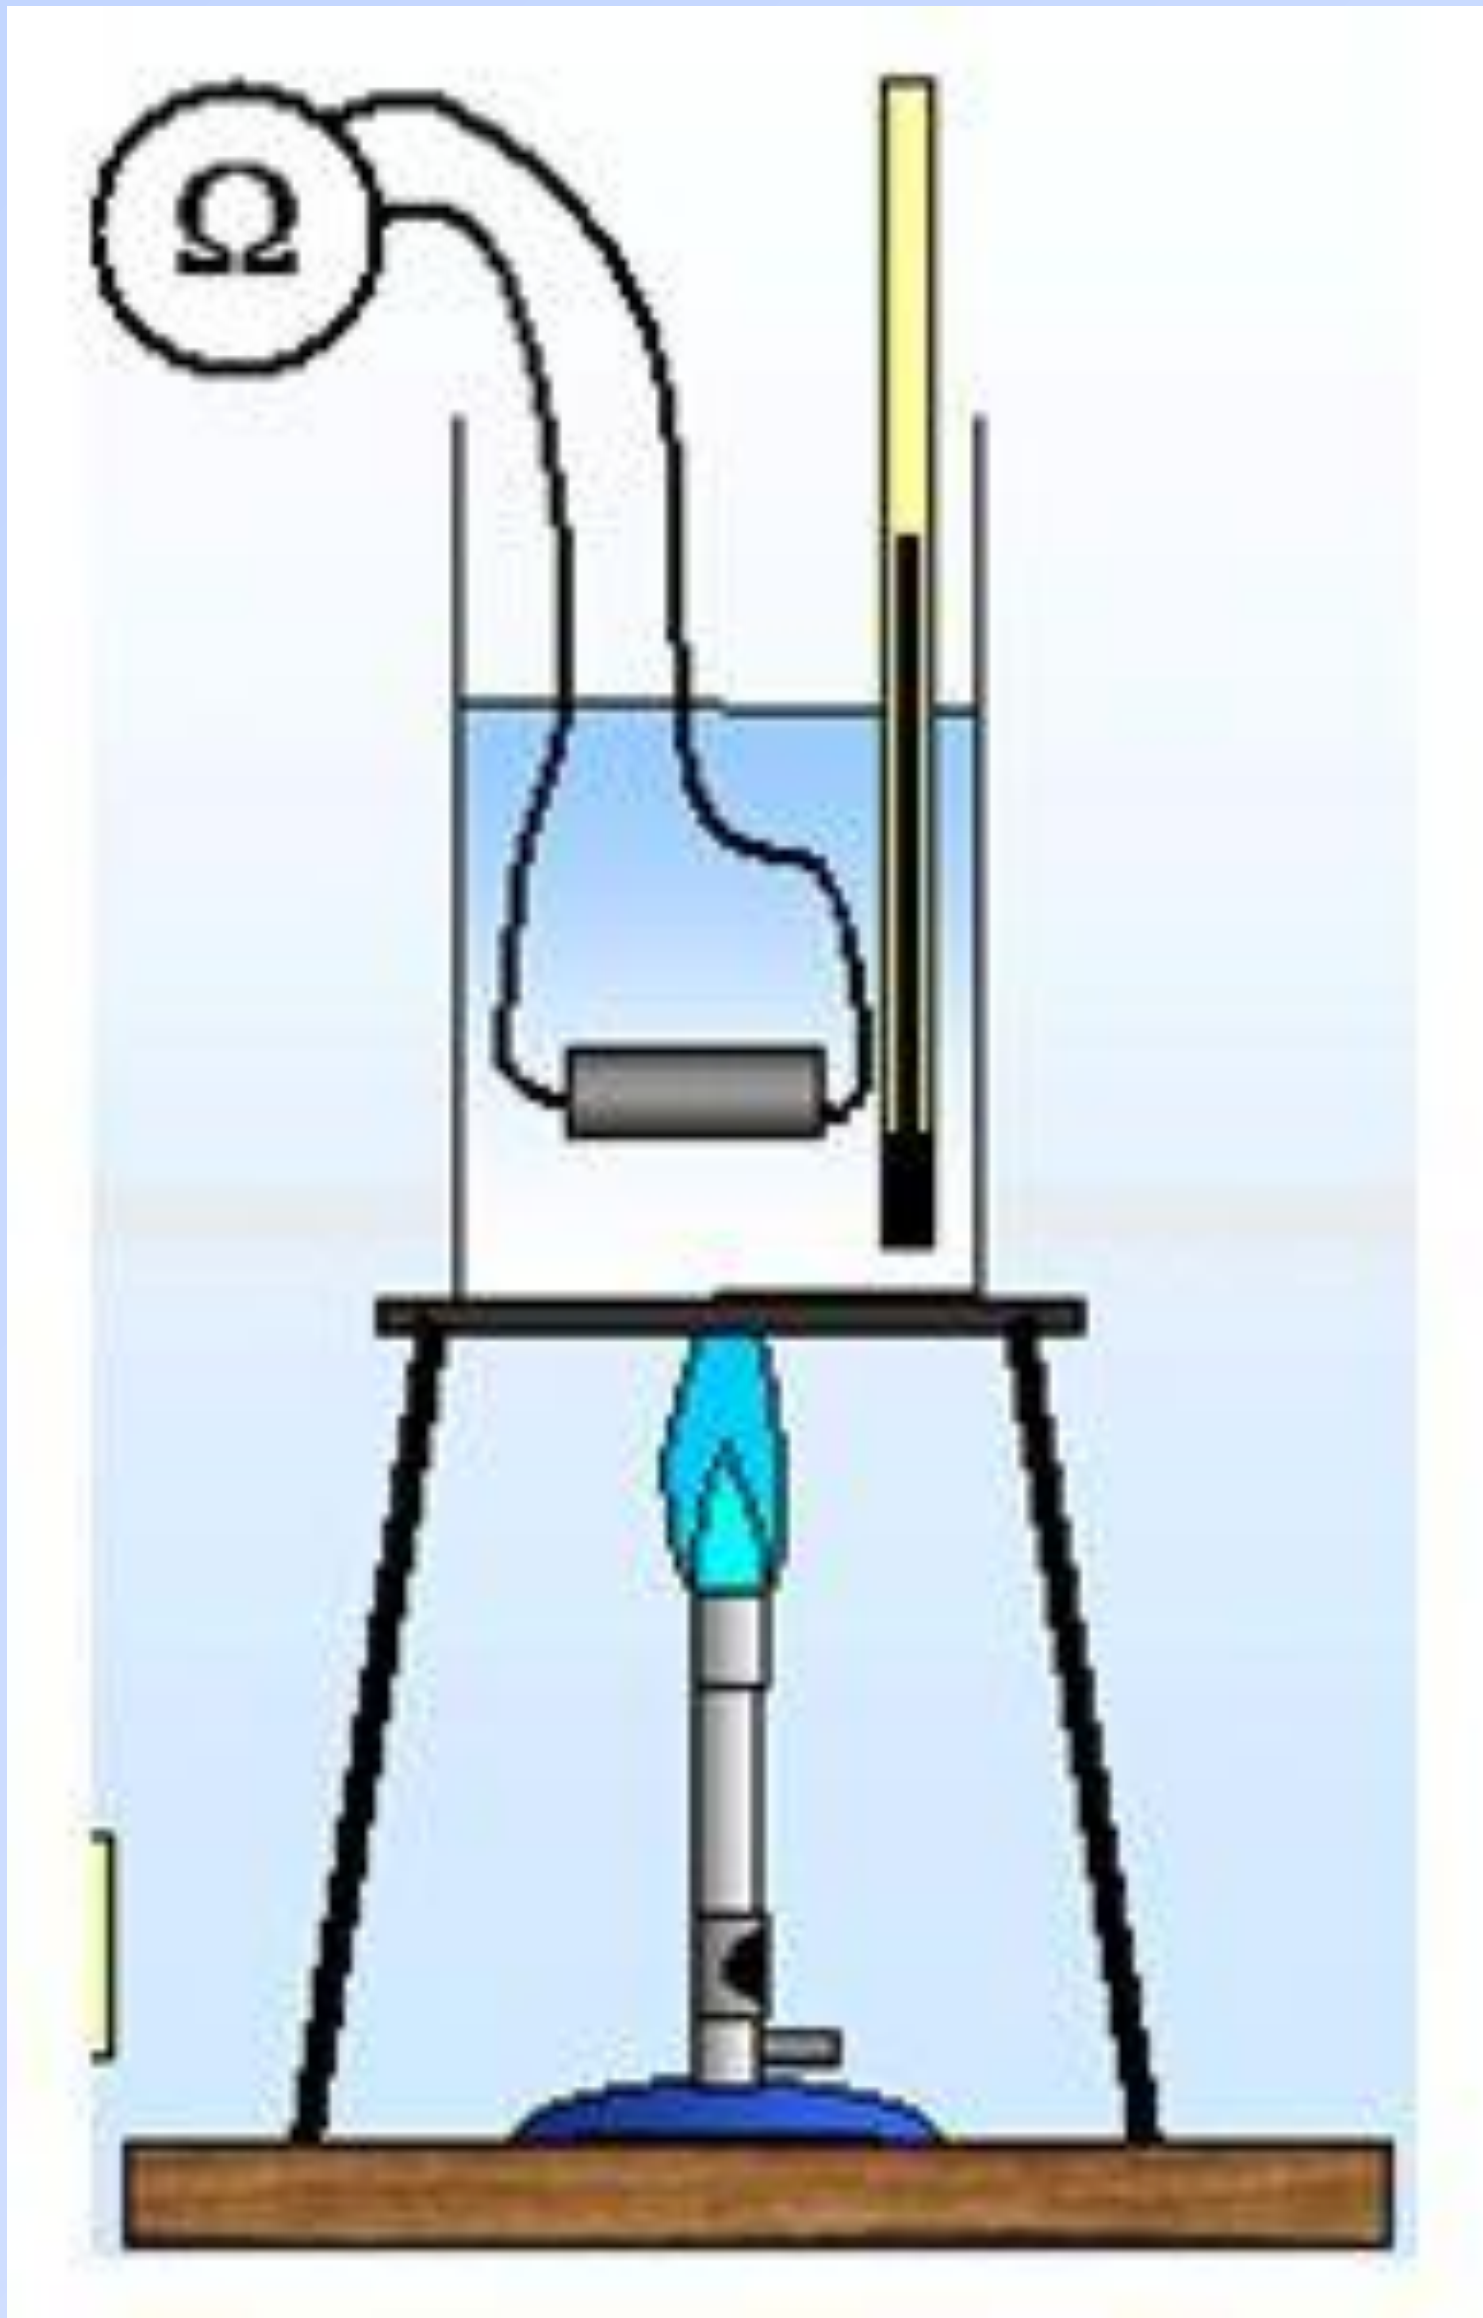

Figure 3 Experiment set up
2. Connect the two terminals of the two samples, respectively to the ohmmeter, and record the resistance R_{ref} , *figure 3*.